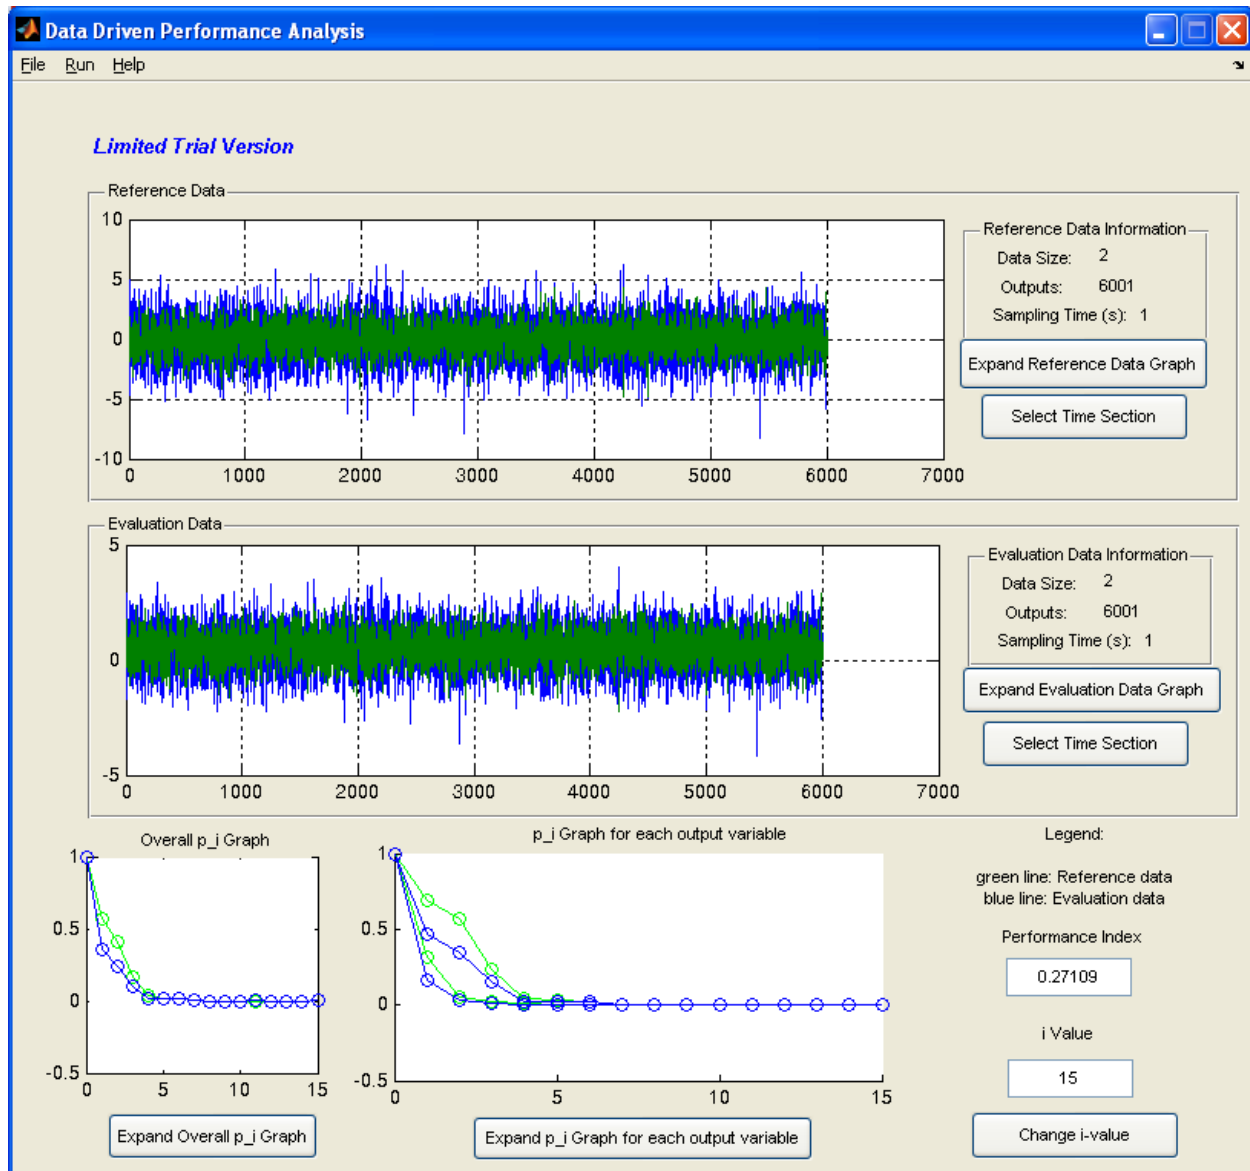
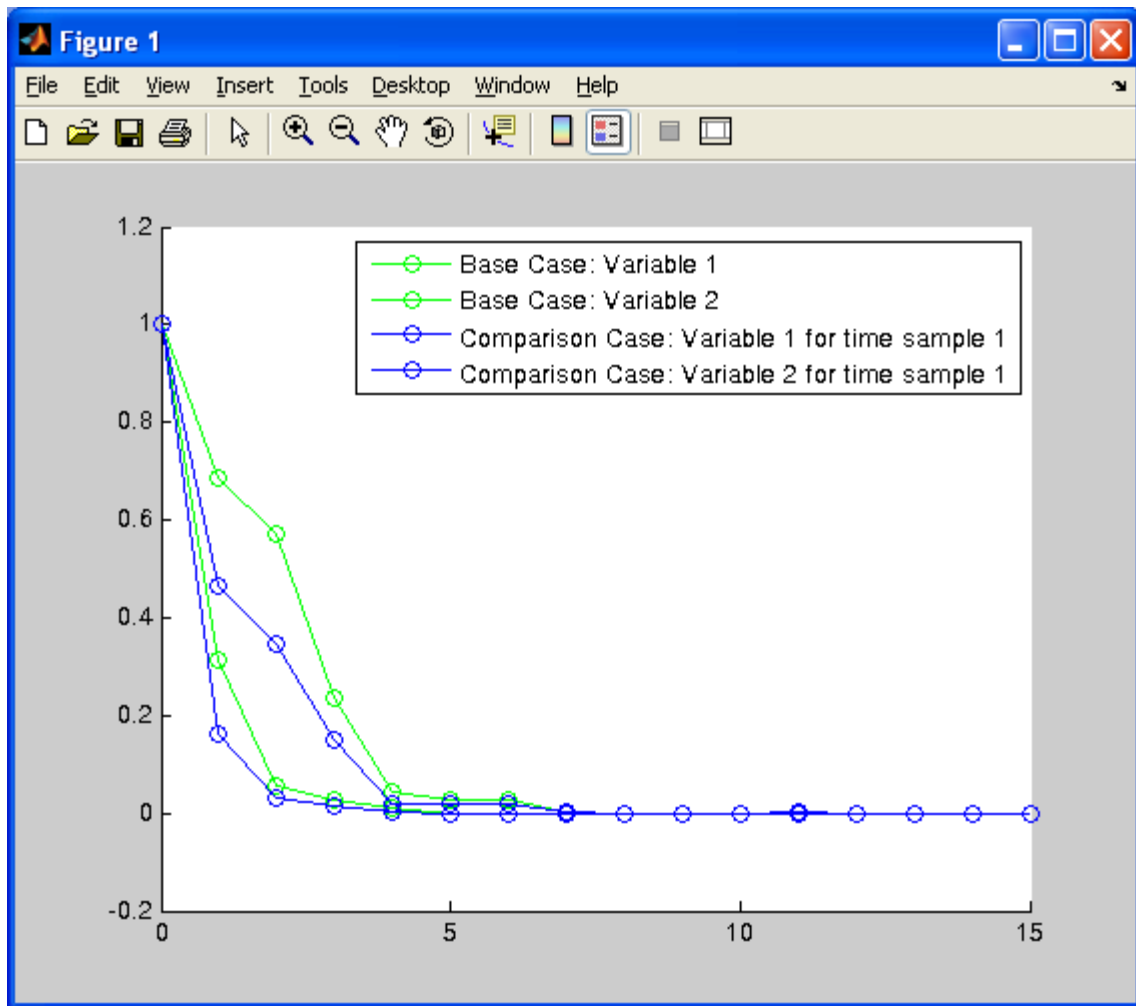

Figure 3: Screen shot after clicking "Run"
Figure 4: In-Depth View of the Individual p_i Curves
- 7) After a few seconds, the GUI should become similar to that shown in Figure 3.
- 8) Figure 3 shows that in general, the reference data (green line) is always located above the evaluation data (blue line). This suggests that significant improvement can be obtained for the process. In order to see the data better, press the "Expand p_i Graph for each output variable". The Figure shown in Figure 4 should appear. This figure accentuates the above results.